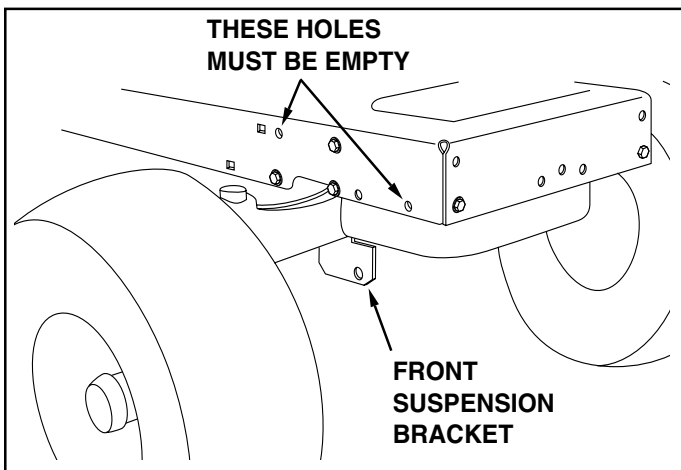

FIGURE 4 **RIGHT SIDE VIEW**
- Remove any bolts present in the holes shown in figure 4 on both sides of the tractor frame.